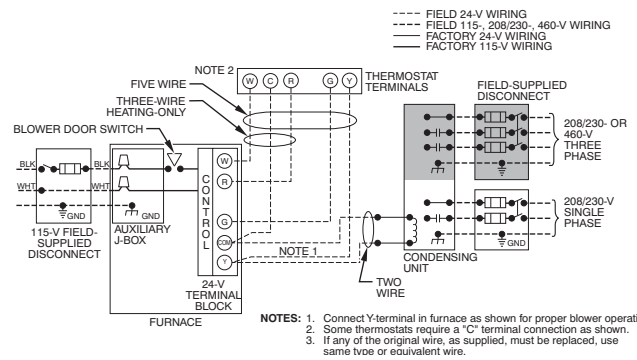

Fig. 32 – Typical Single-Stage Wiring Diagram
See Fig. 32 for field wiring diagram showing typical field 115-V wiring. Check all factory and field electrical connections for tightness.
6. Connect power cord power and neutral leads to furnace power leads as shown in Fig. 32.
5. Connect field power and neutral leads to furnace power leads. as shown in Fig. 32.
Make field 24-V connections at the 24-V terminal strip. See Fig. 37. Connect terminal Y as shown in Fig. 32 for proper cooling operation. Use only AWG No. 18, color-coded, copper thermostat wire.